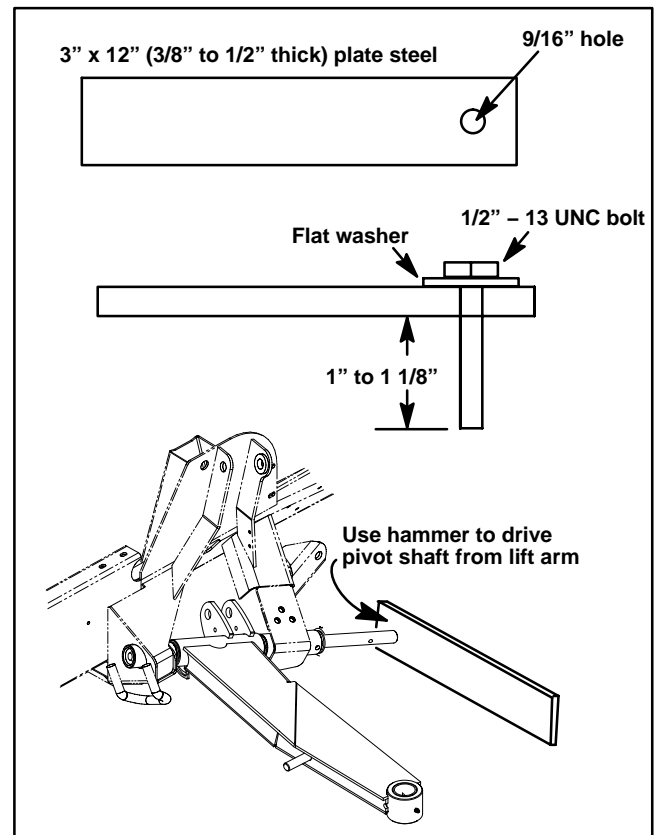

Figure 6
- A. If pivot shaft is difficult to remove, fabricate a puller as shown in Figure 6. Attach puller to end of pivot shaft with the pictured bolt and flat washer. Drive pivot shaft from lift arm and frame with hammer.